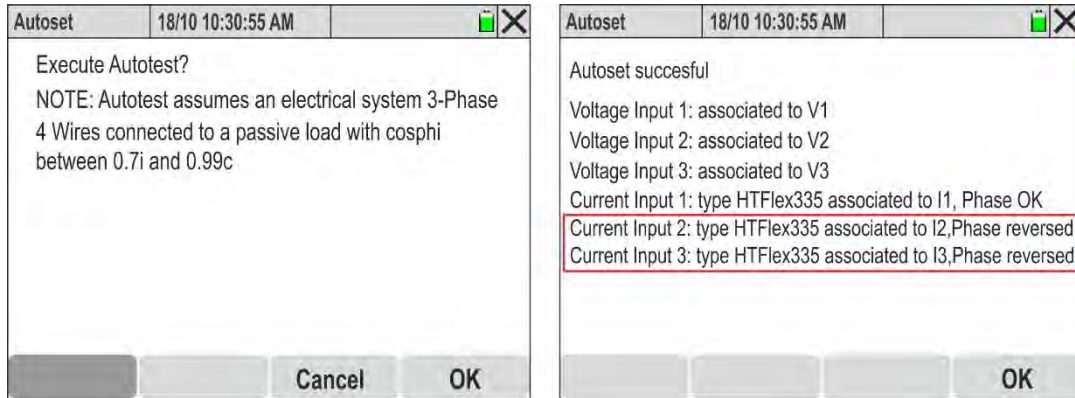

Fig. 74: Autoset execution with connection errors (clamps reversed)
10. The Fig. 74 - right part shows an example in which the Autoset function has detected and **automatically corrected** the presence of an incorrect phase difference between the voltages and currents on phases L2 and L3 due to an **incorrect connection of the current clamps (clamps 2 and 3 reversed on the respective conductors)**